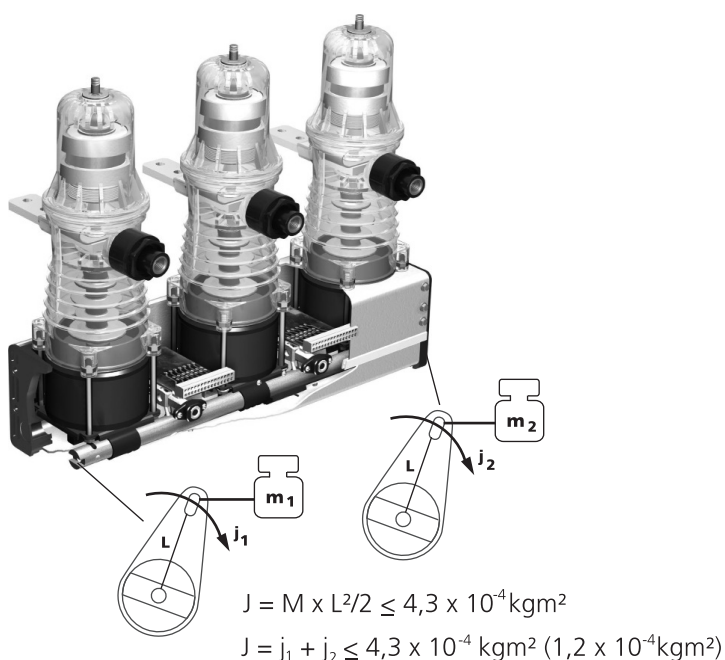

Figure 33
- If the attached part is joined with a lever mechanism, the weight (including directly moved parts) shall be decreased in proportion to the lever (Figure 33).